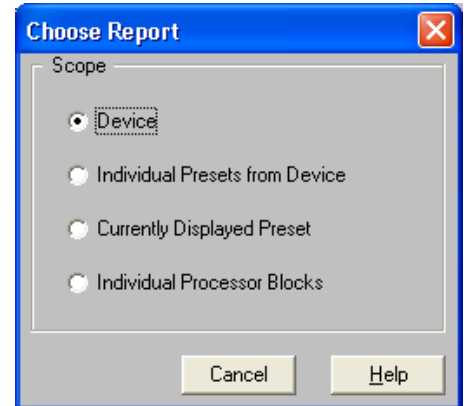

FIGURE 10-1: “Choose Report” Dialog
2. The “Choose Report” dialog opens, as pictured to the right in Figure 10-1.